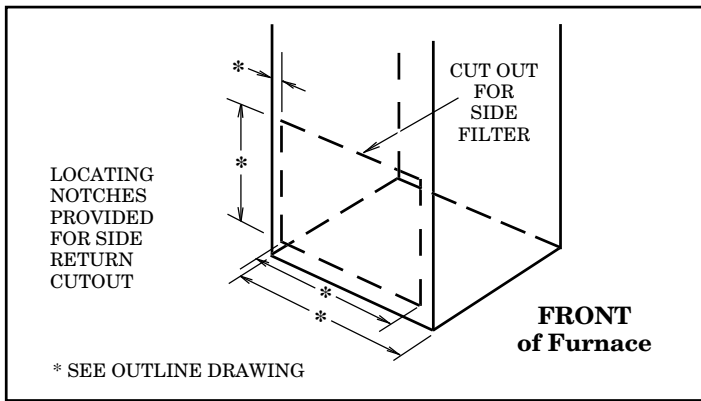

FIGURE 10
3. The side panels on upflow furnaces include locating notches which may be used as guides for cutting an opening for return air. Refer to Figure 10 and the outline drawings on pages 4 and 5 for duct connection dimensions for various furnaces.
4. If a 3/4" flange is to be used for attaching the air inlet duct, add to cut where indicated by solid lines in Figure 10. Cut corners diagonally and bend outward to form flange.